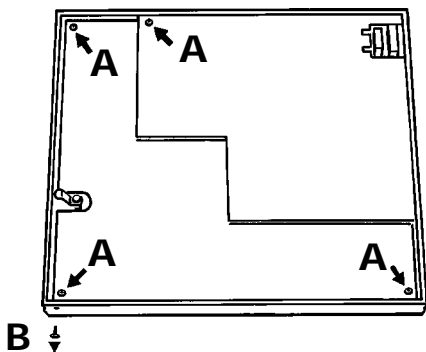

Figure 2a Inner cover securing screws
- 1 Release the door inner cover by undoing and removing the fixing screws ('A' in figure 2a). Remove the plastic door guide ('B') and keep safely for later re-assembly.